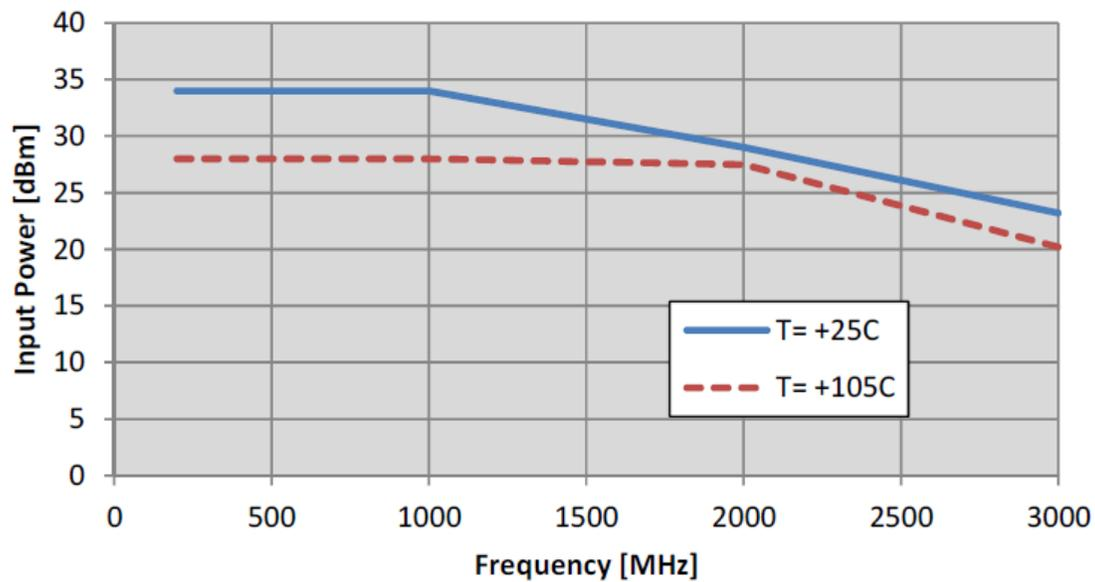

Figure 2. Maximum power handling at $V_{DD} = 3.3V$
-  1. To maintain the optimum device performance, do not exceed the maximum input power (P_{IN}) at the preferred operating frequency. For more information, see Figure 2.